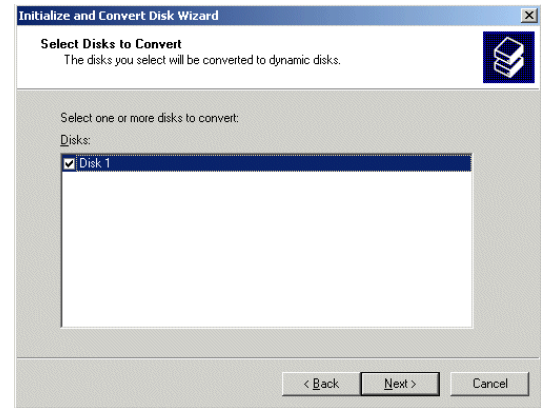

Figure 3-24
- 19) Click the **Next** button to be presented with the **Select Disk to Convert** screen. Click the **Disk 1** item as shown in Figure 3-24.